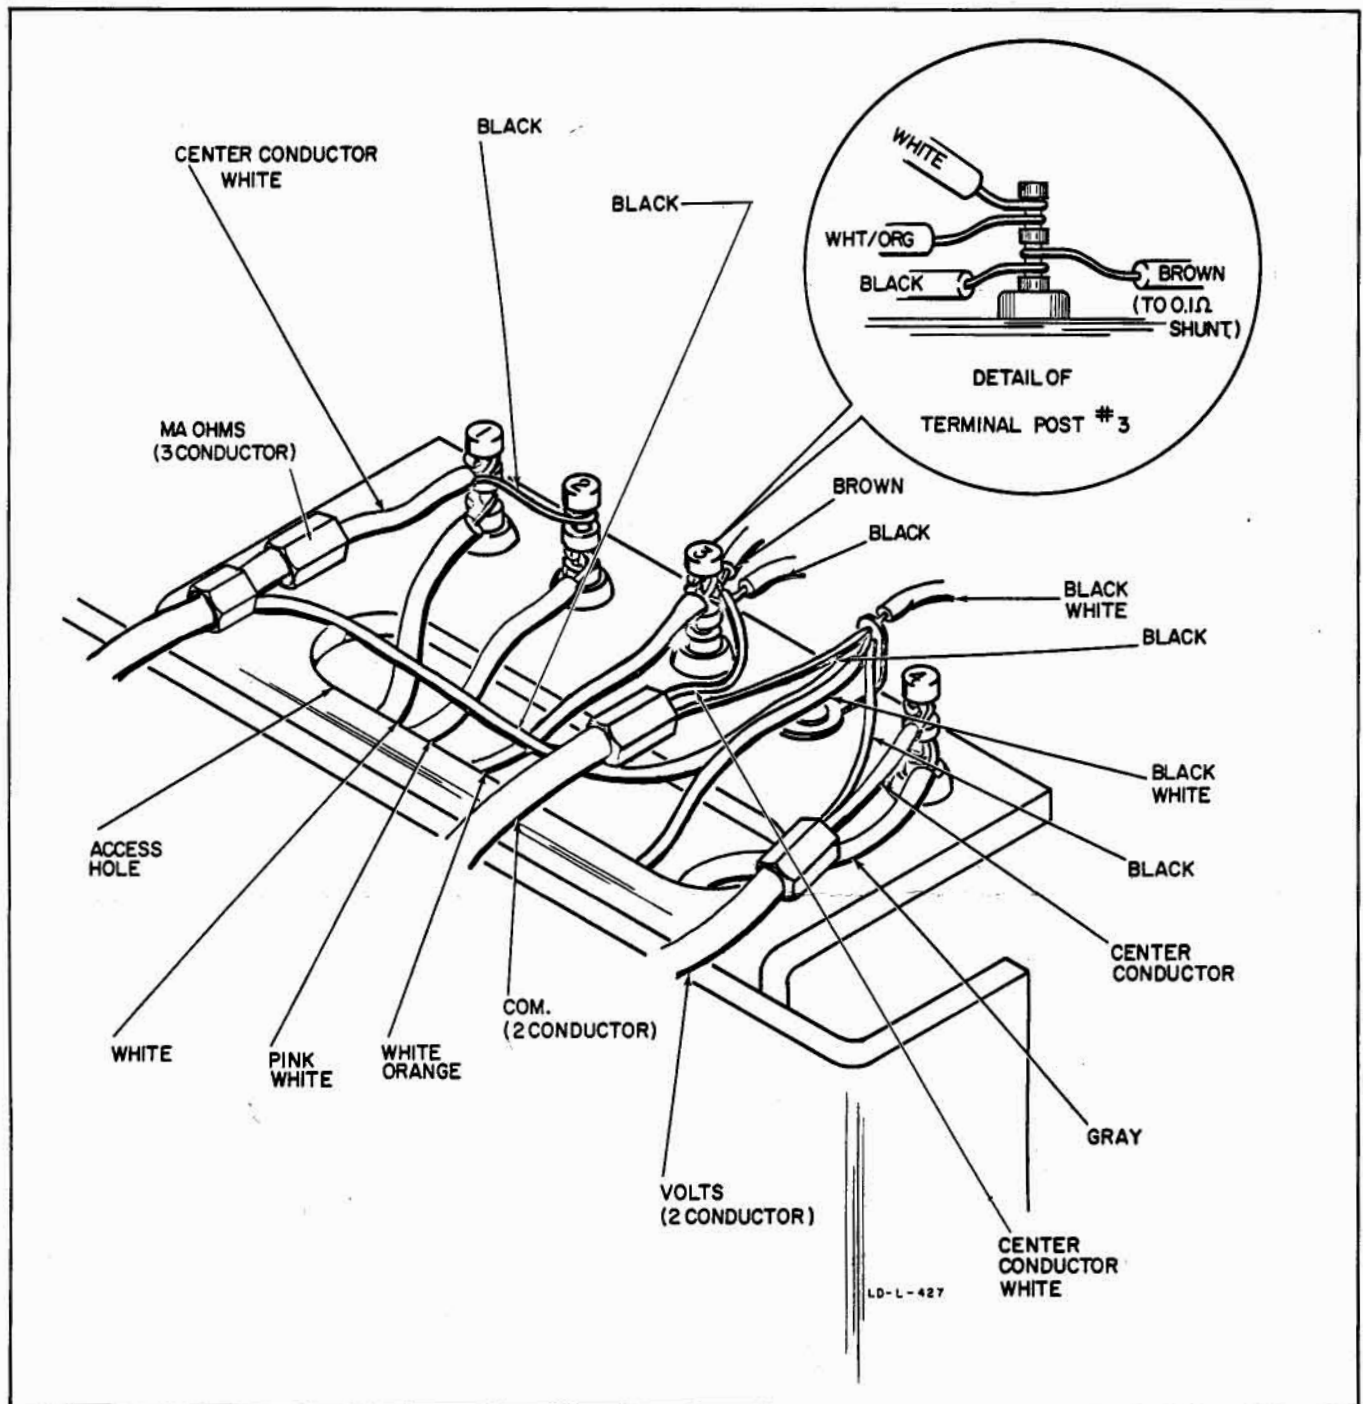

Figure 2. Connection Diagram for MA/OHMS, COM, and VOLTS CABLES
8) Refer to figure 2. Very carefully unsolder VOLTS, MA/OHMS, and COM cables at input terminals. Do not shorten leads. Note that OHMS lead is three conductor cable.
46) Solder MA/OHMS, COM, and VOLTS cable leads and internal connecting wires to input terminals to agree with figure 2.